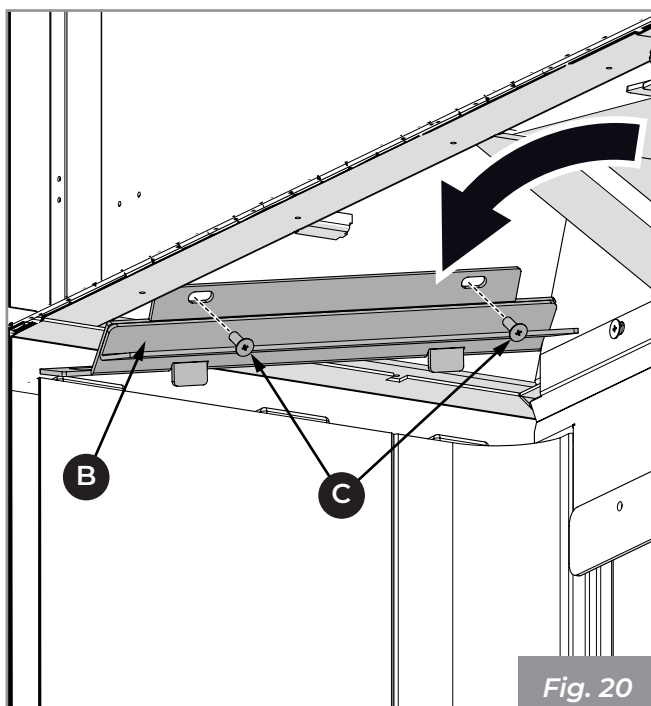

Fig. 20
- 2) Block the refractory with the bracket (B) being sure to insert the slots in the relevant projections (C) and secure it with the appropriate screws (C) (Fig. 20).
- 3) Proceed in the same way on the opposite side (in the **MX R** and **MX L** models there are only the elbow and the upper bracket (B - Fig. 20) due to the presence of the side glass).